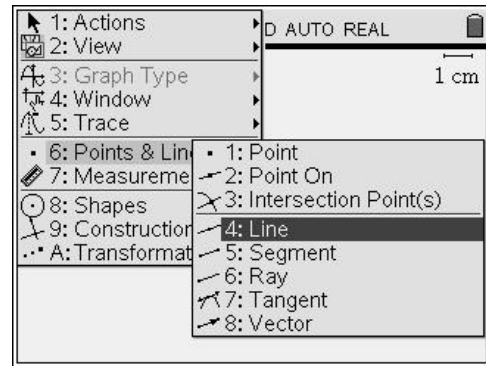

Figure 4
4. Press **menu** **6** **4** for Menu, 6:Points & Lines, 4:Line. (Figure 4)